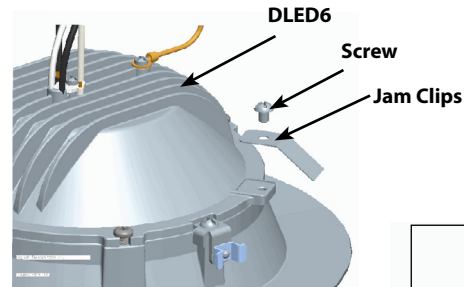

Fig.1
DLED6 Retrofit unit is designed to fit nominal 6" **Existing Housings** using **Torsion Spring** or **Jam clips**. The fixture is provided with **Torsion Springs** installed (Fig.1). To mount into housings with torsion spring slots follow the steps below. RAB 6" Retrofit can be used in **Existing Housing** with opening of minimum 6" and maximum 6 ³/₄". See the list of compatible housing provided below.
2. Connect the **Ground Wire** on **DLED6** to the **Existing Housing**. Use #8 screw provided and secure to any **Existing Housing** hole or drill a new 1/8" diameter hole. (Fig.1 & 5)
1. Remove the two **Torsion springs** from fixture and install three **Jam Clips** as shown in Fig.1.